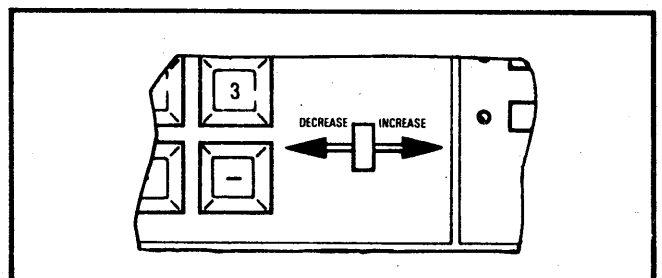

Figure 3-6. INCREASE/DECREASE Lever
c. INCREASE/DECREASE Lever (Figure 3-6). When enabled by a parameter pushbutton (F1, SWEEP TIME, LEVEL, etc.), this lever may be used to increase or decrease the parameter's value. The length of lever travel, either right or left, determines the rate at which the parameter's value increases or decreases. To increase or decrease the parameter's value in one-increment steps, "tap" the switch in the direction of desired change. When the lever is "tapped," a frequency parameter will change in 1 MHz increments. An RF level parameter will